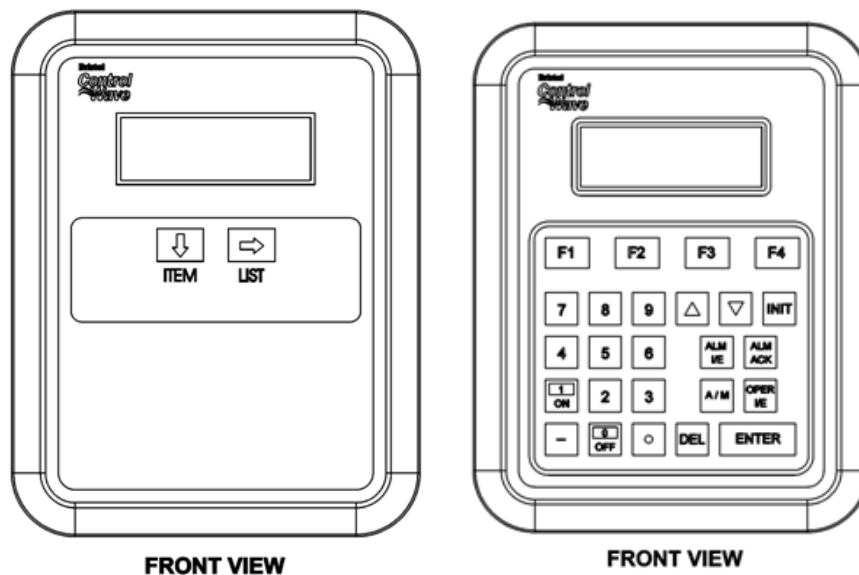

Figure 2-13. Optional 2-Button and 25-Button Keypads
- A 2-button keypad (shown in the left of *Figure 2-13*)
- A 25-button keypad (shown in the right *Figure 2-13*)